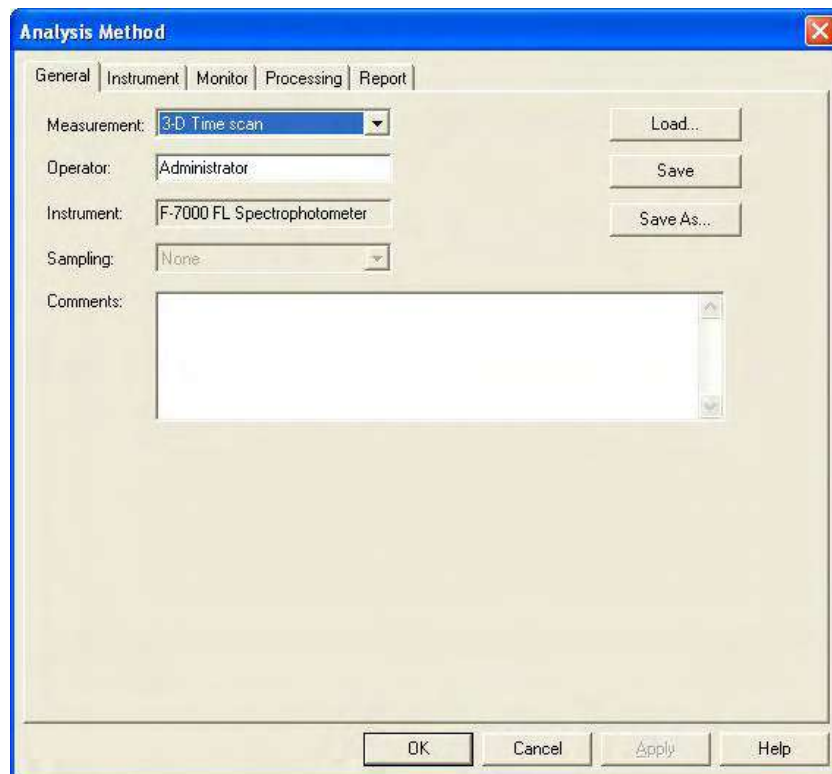

Fig. 6-2 Analysis Method
- (1) Click the  button on the Measurement toolbar. The window in Fig. 6-2 appears.